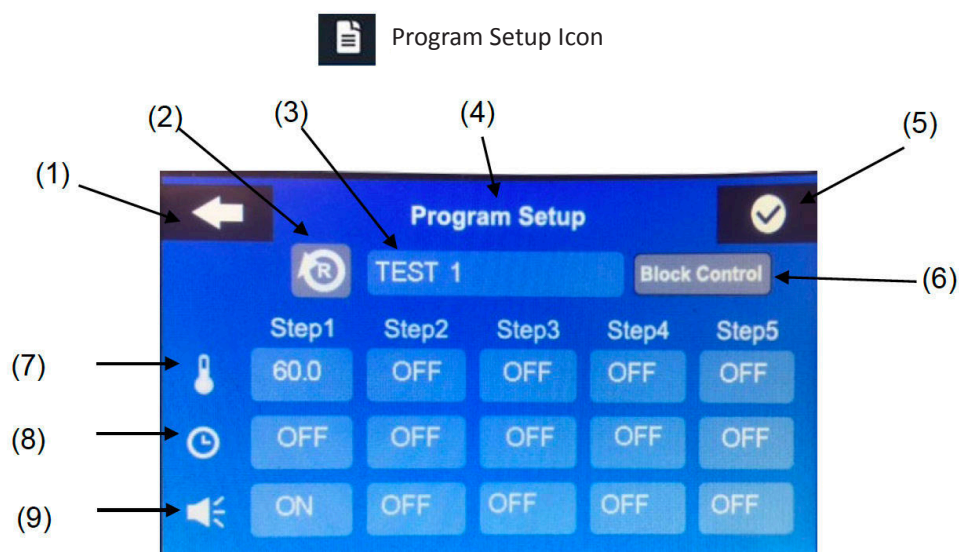

FIGURE 6
4.5 Program Setup Screen (Figure 6)